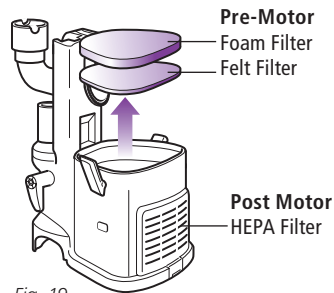

Fig. 19
- 2 Pull the 2 filters out from the top of the motor base. (Fig. 19)